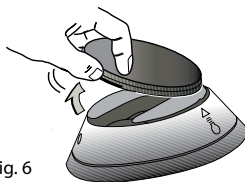

Fig. 6
- To change the battery, remove the lid from the remote control, as shown in figure 6.